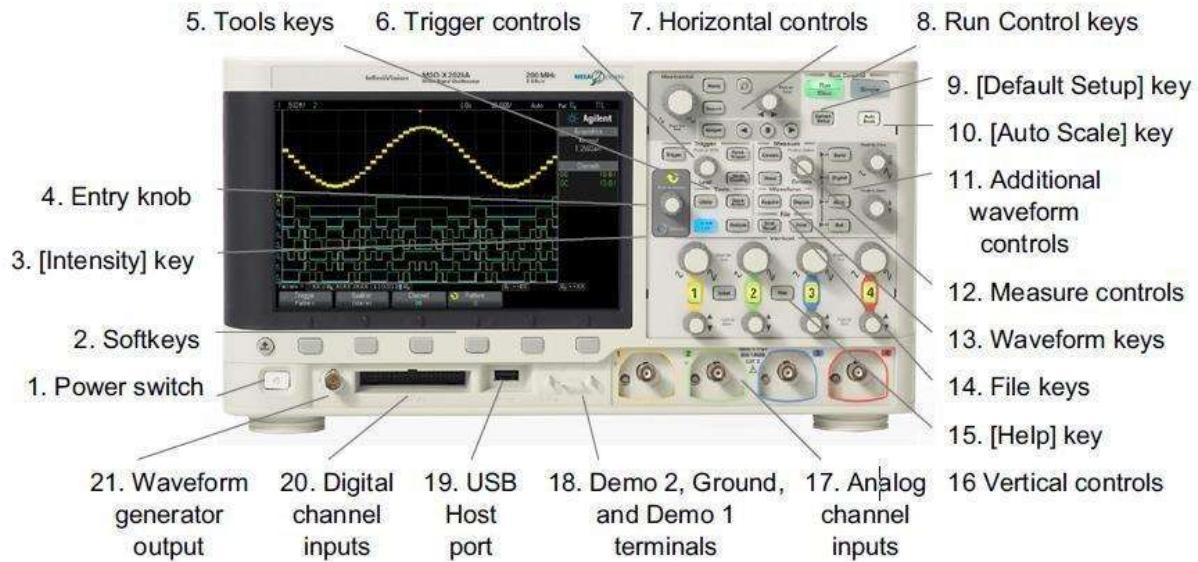

Fig. 6 Oscilloscope
- 4 channel digital storage oscilloscope model is shown in Fig. 6.